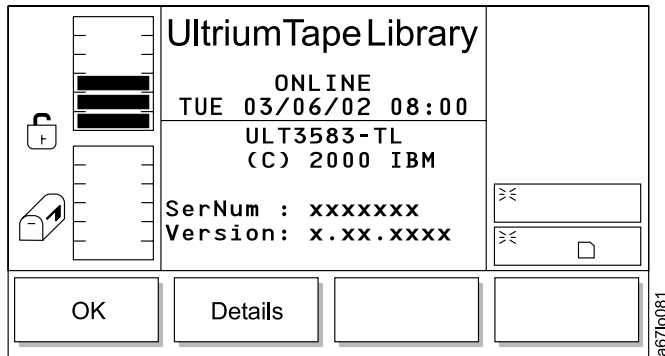

Figure 366. About Menu
- To view the level of firmware currently loaded on the library, select **Main Menu (initial screen) —> More —> About**. The About Menu displays (see Figure 366).